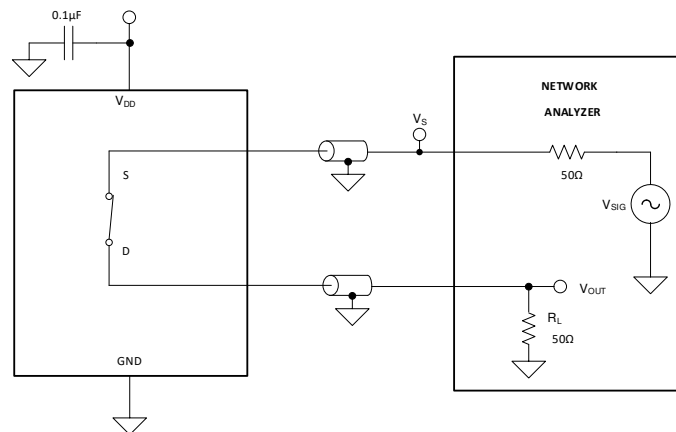

图 7-10. Bandwidth Measurement Setup
Bandwidth is defined as the range of frequencies that are attenuated by less than 3 dB when the input is applied to the source pin (S_x) of an on-channel, and the output is measured at the drain pin (D) of the device. 图 7-10 shows the setup used to measure bandwidth.